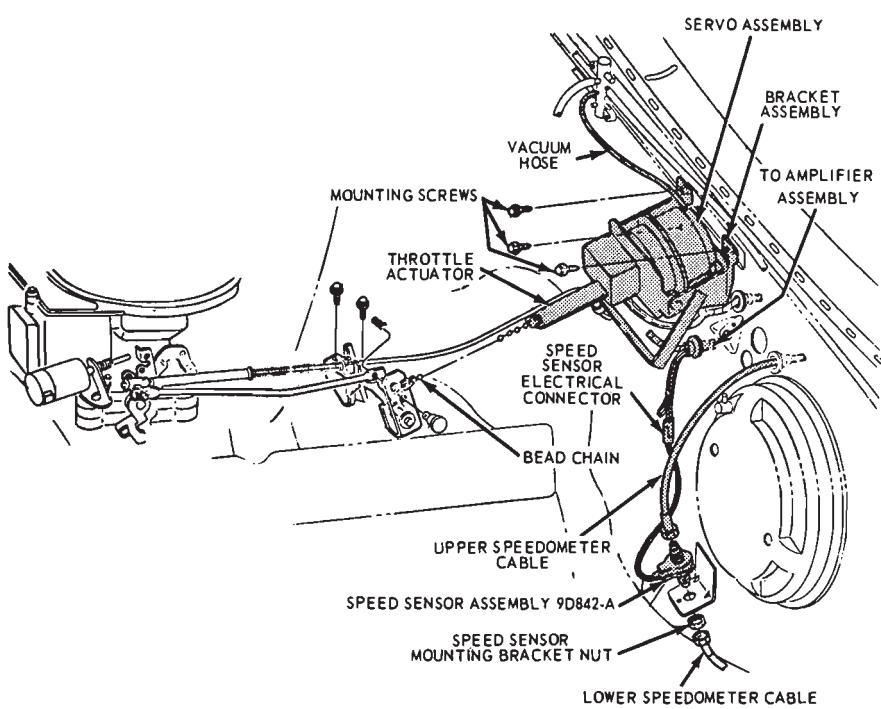

FIG. 6—Speed Control Sensor and Servo Assembly—Ford, Mercury and Meteor
el when the engine is at hot idle (Fig. 6 or 9). The adjustment should be made to take as much slack out of the bead chain as possible without
1. Separate the electrical connector leading to the amplifier assembly (Fig. 6).
1. Insert the speed sensor in the mounting bracket (Fig. 6).
1. Disconnect the wiring harness connector under the instrument panel at the amplifier (Fig. 6 or 9).
3. Disconnect the ball chain at the bell crank (Fig. 6 or 9). Disconnect the vacuum hose at the servo assembly.
1. Position the servo assembly to the dash panel. Install the retaining screws and connect the vacuum hose (Fig. 6 or 9).